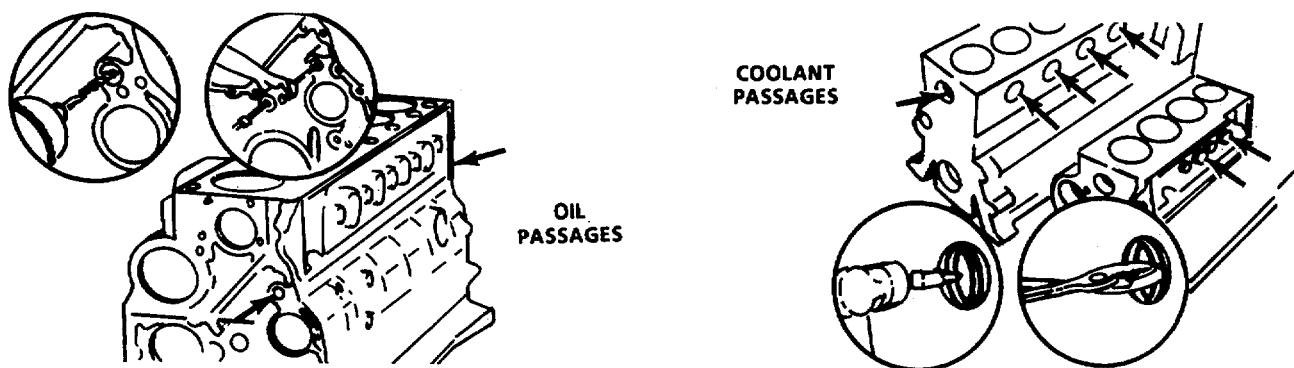

FIGURE 4-85. Removing Cup Plugs.
- (1) Remove the cup plugs from the oil passages; then from the coolant passages (FIGURE 4-85).